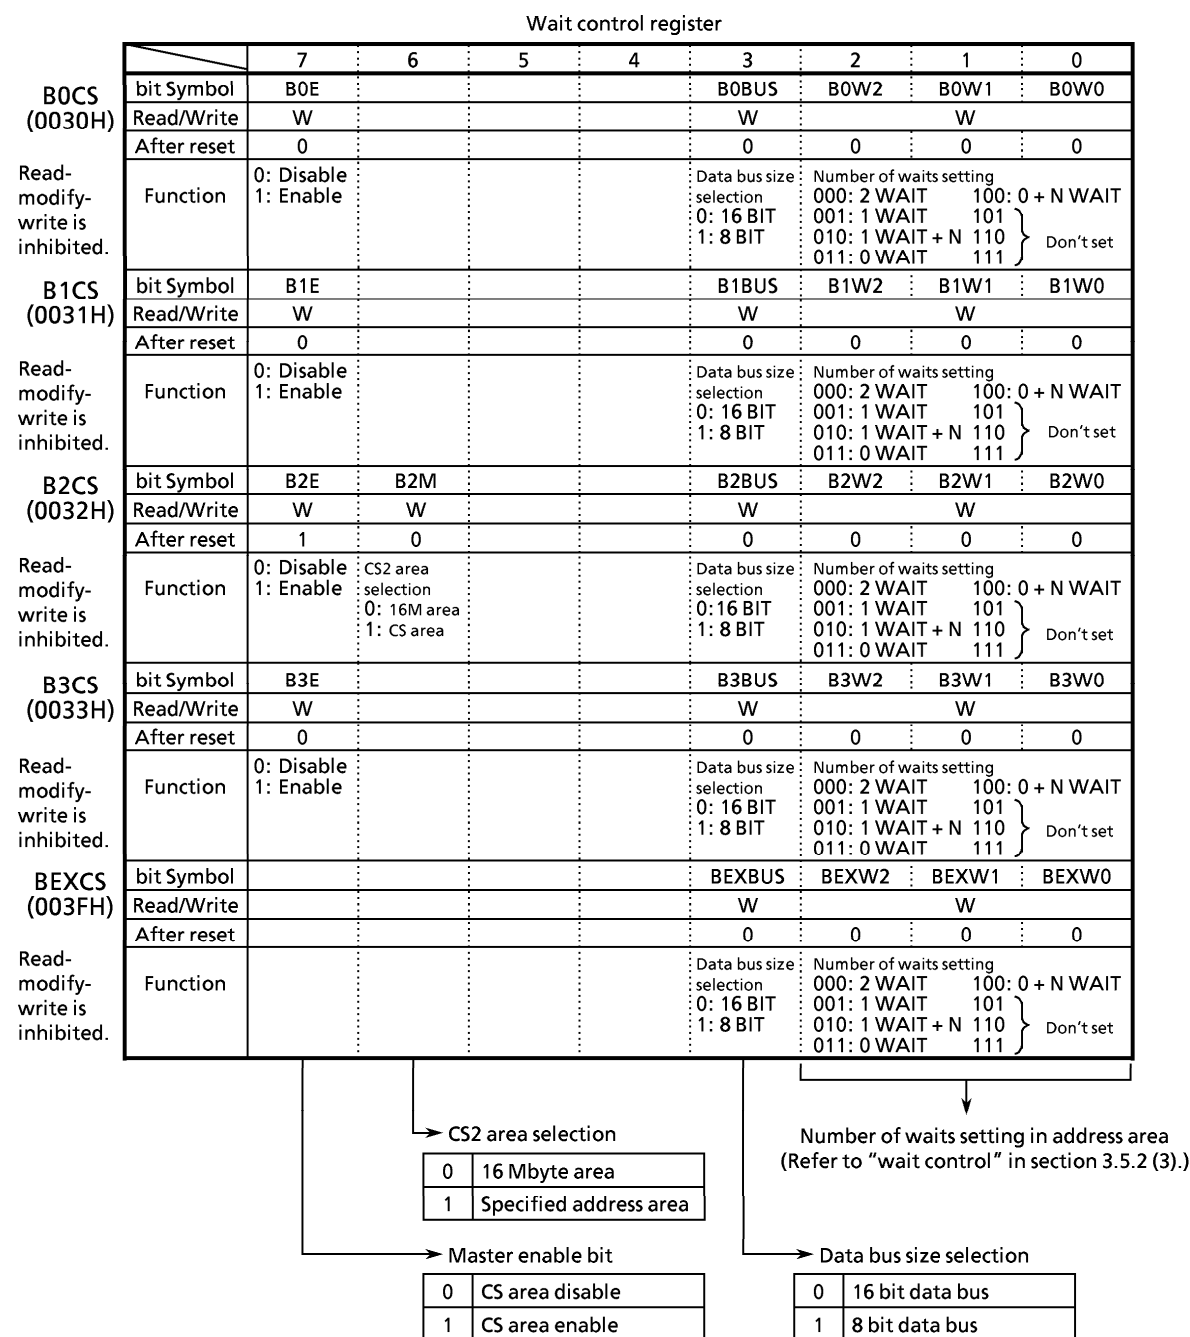

Figure 3.5 (5) Wait Control Registers
Figure 3.5 (5) shows the wait control registers. In each address area (CS0 to CS3 areas and another area), the master enable / disable, the data bus size and the number of waits are set by the wait control registers, B0CS to B3CS and BEXCS.